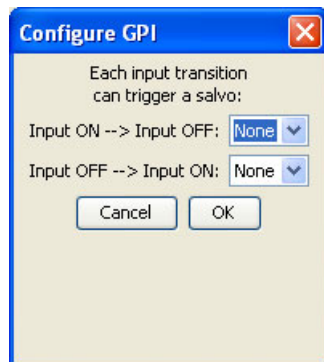

Figure 11-38. Configure GPI Dialog Box
- 10 In the 'Panel I/O Layout' section, click on a button in the 'GPIs' (General Purpose Input) section to select it. The 'Configure GPI' dialog box appears, as shown in Figure 11-38.